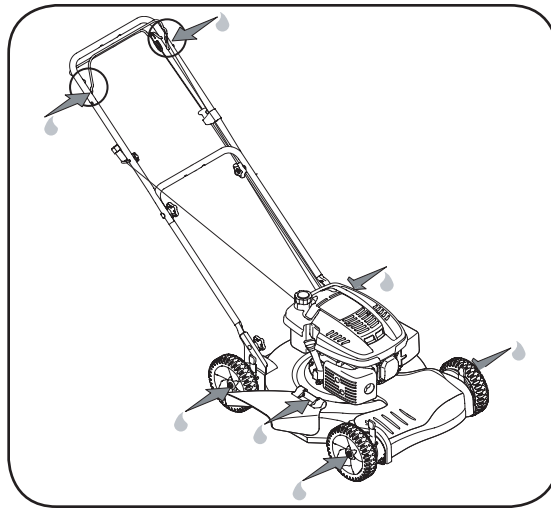

Figure 5-1
1. Lubricate the pivot points on the blade control handle at least once a season with light oil. The blade control must operate freely in both directions. See Figure 5-1.
3. Lubricate the torsion springs and pivot point on the rear door periodically with light oil to prevent rust. See Figure 5-1.